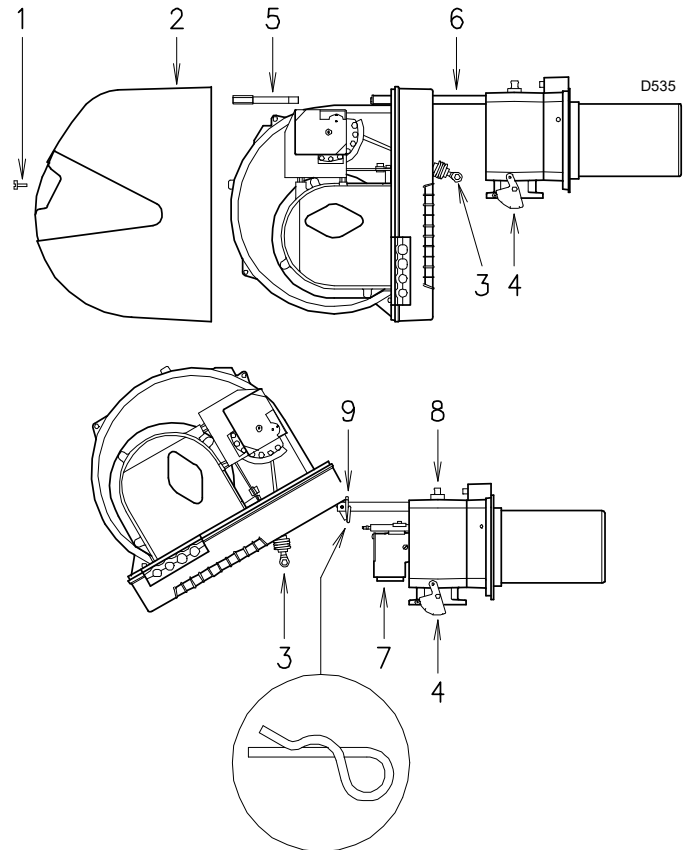

Fig. 37
- Remove screw 1) and take out cover 2)(Fig. 37).
- Disengage the articulated coupling 3) from the graduated sector 4)(Fig. 37).
- Remove the screw 5) and split pin 9) and pull back the burner on the guides 6)(Fig. 37) by about 100 mm. Disconnect the cables of the probe and electrode, then pull the burner back completely.
Now extract the gas distributor 7) after having removed the screw 8)(Fig. 37).
- Remove the split pin 9)(Fig. 37) and push the burner until it is approx. 100 mm from the pipe coupling.
- Reposition the screw 5) and split pin 9)(Fig. 37) and carefully pull the probe and electrode cables outwards until they are slightly taut;
- Re-couple the articulated coupling 3) to the graduated sector 4)(Fig. 37).